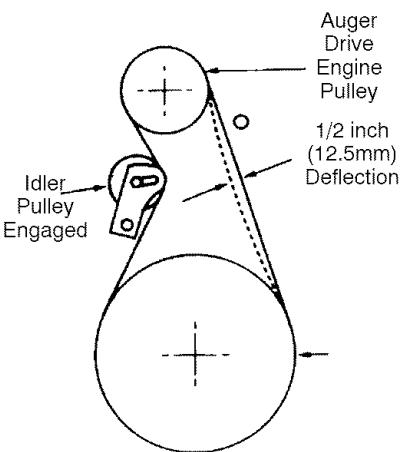

Figure 26
5. Have someone engage auger drive clutch. Check tension on belt (opposite idler pulley). Belt should deflect about  $1/2$  inch (12.5 mm) with moderate pressure (Figure 26). You may have to move idler pulley more than once to obtain the correct tension.